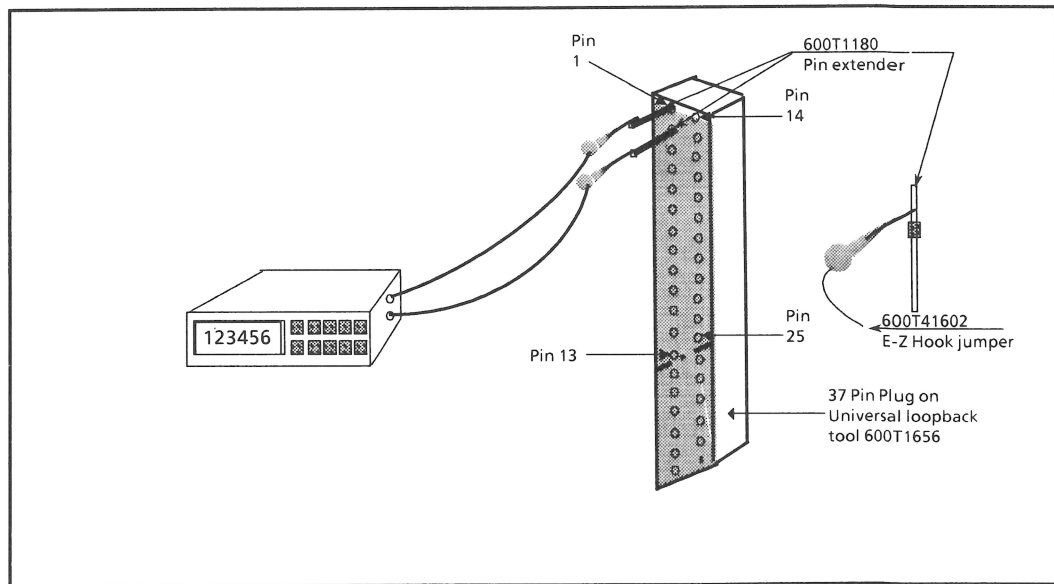

Figure 6-6 Interface Signal Check Set-Up (Continued)
- c. Locate pins 1 and 2 (Video Clock) and insert the pin extender tool 600T1180. (Figure 6-6)